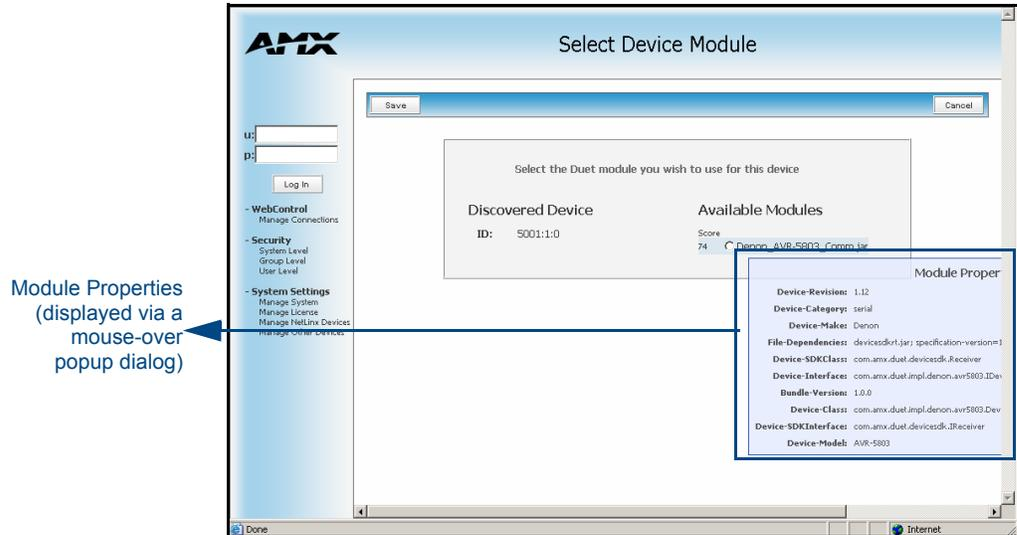

FIG. 71 Select Device Module page
Once a list of all compatible modules is compiled, the Select Device Module page (FIG. 71) is then displayed with a listing of each module along with its calculated “match” value. The greater the “match” value, the better the match between the Duet Module's properties and the physical device's properties.
- Any available modules on either the amx.com, AMX's partner website, or within the physical device itself are downloaded to the Master and then displayed back within the Select Device Module page (FIG. 71 on page 89). The discovered device is then shown with an adjacent listing of available modules ranked with associated "match" score.